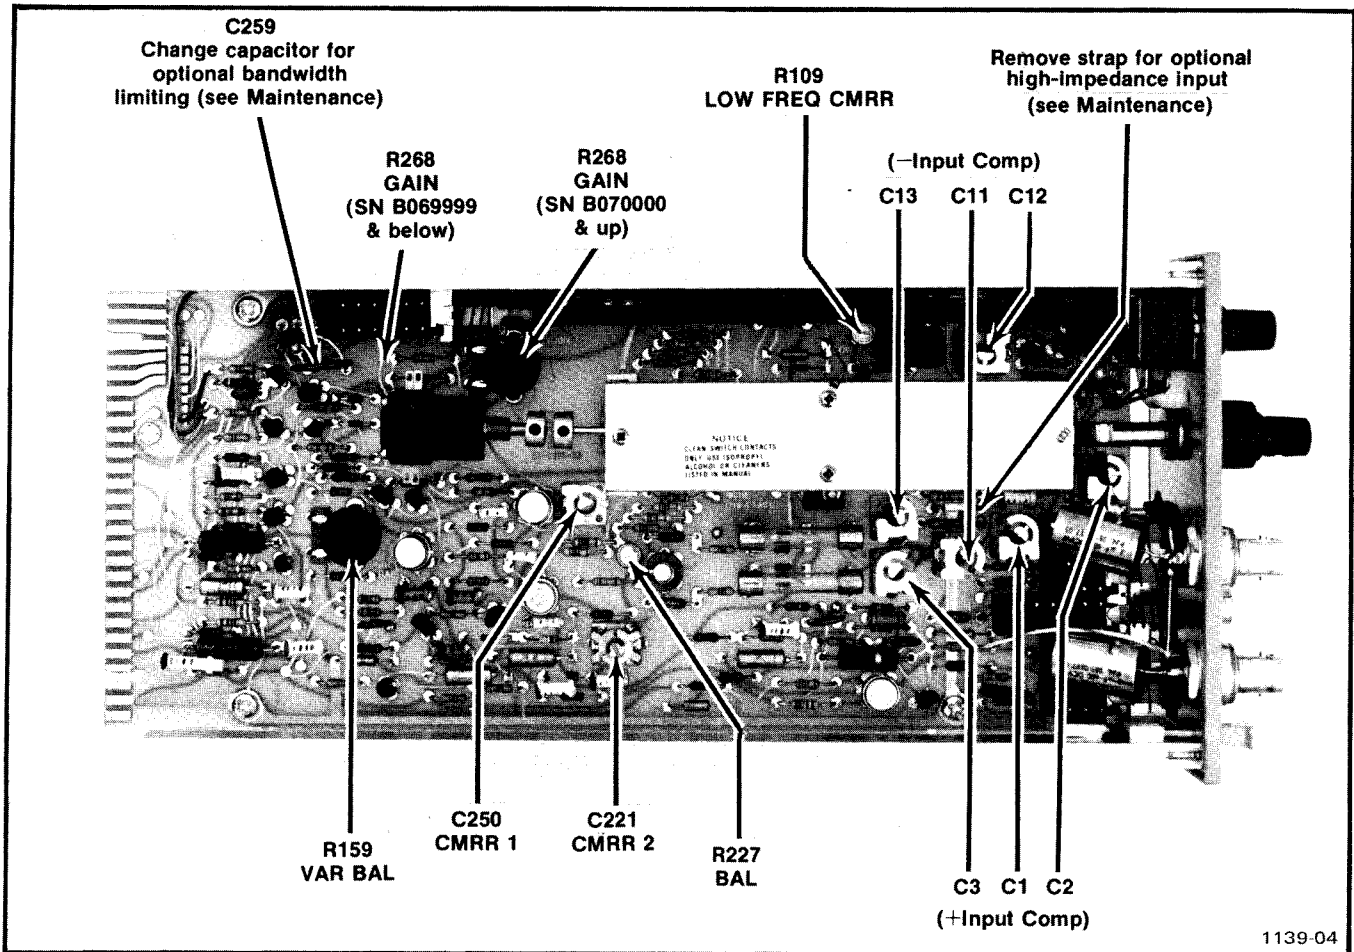

Fig. 5-1. Adjustment locations.
l. ADJUST—C11 and C12, - Input Comp, for minimum roll-off or overshoot at bottom leading corner of square-wave display. See Fig. 5-1 for adjustment locations.
o. ADJUST—C13, - Input Comp. for minimum roll-off or overshoot at bottom leading corner of square-wave display. See Fig. 5-1 for adjustment location.
f. ADJUST—R109, Low-Freq CMRR, for minimum deflection. See Fig. 5-1 for adjustment location.
d. ADJUST—C1 and C2, + Input Comp, for minimum roll-off or overshoot at top leading corner of square-wave display. See Fig. 5-1 for adjustment locations.
g. ADJUST—C3, + Input Comp, for minimum roll-off or overshoot at top leading corner of square-wave display. See Fig. 5-1 for adjustment location.
- d. ADJUST—R159, Var Bal, for minimum trace shift as the CAL control is rotated throughout its range. See Fig. 5-1 for adjustment location. Re-adjustment of the POSITION control may be necessary to return the trace to graticule center after the minimum shift has been attained.
- d. ADJUST—R227, Bal, for minimum trace shift. See Fig. 5-1 for adjustment location. If the trace goes off-screen at higher sensitivities, start at the position of the VOLTS/DIV switch at which an on-screen display is obtained and adjust R227, Bal, working down to the 50 μ V position, so the trace remains on-screen at 50 μ V. Make the fine adjustment to bring the trace to screen center with the front-panel ATTEN STEP BAL control. Maximum allowable shift of the trace is one division as the VOLTS/DIV switch is rotated.
- d. Adjust—R268, Gain, for a display amplitude of exactly five divisions. See Fig. 5-1 for adjustment location.